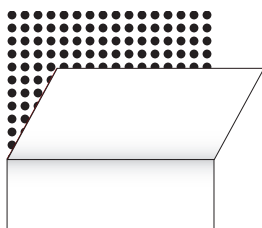

Figure 05
- › Once the graphic is correctly applied to the top, remove the masking tape strips, then gradually remove the rest of the liner while applying the film. (FIG. 05)